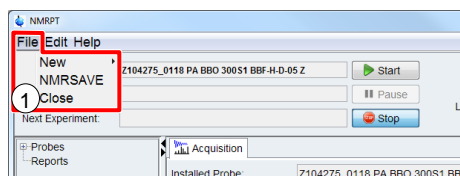

Figure 5-9: Close *NMRPT*
Click **Close** (Figure 5-9 (1)) to exit *NMRPT*. Closing is prohibited if acquisition of the Experiment Queue is active or paused. To stop current Acquisition Queue use Stop button in Acquisition Bar.